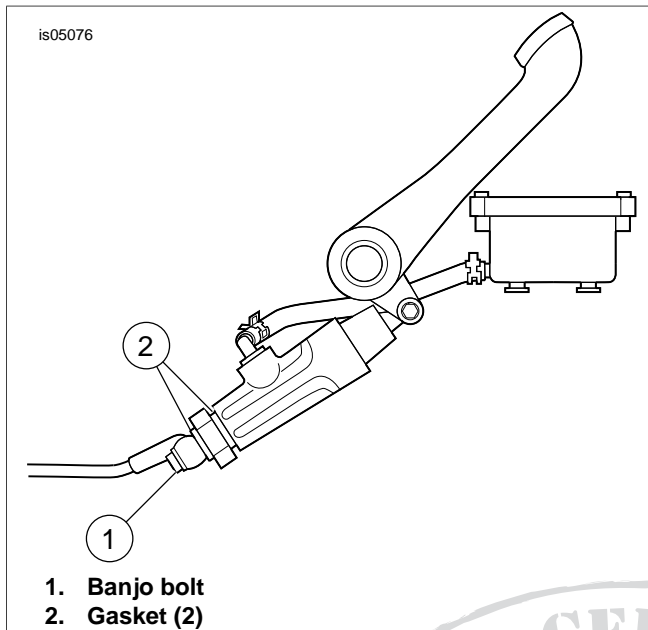

Figure 3. Rear Brake Master Cylinder/Reservoir
- 7. See Figure 3. Remove the banjo bolt (1) and two gaskets. Discard banjo bolt and gaskets.
- 8. Lubricate **new** gaskets (2) with appropriate clean brake fluid.